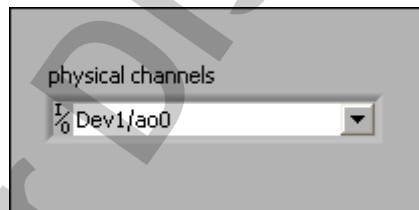

Figure 4-5. Finite Buffered Generation VI Front Panel
4. Configure the front panel, as shown in Figure 4-5.